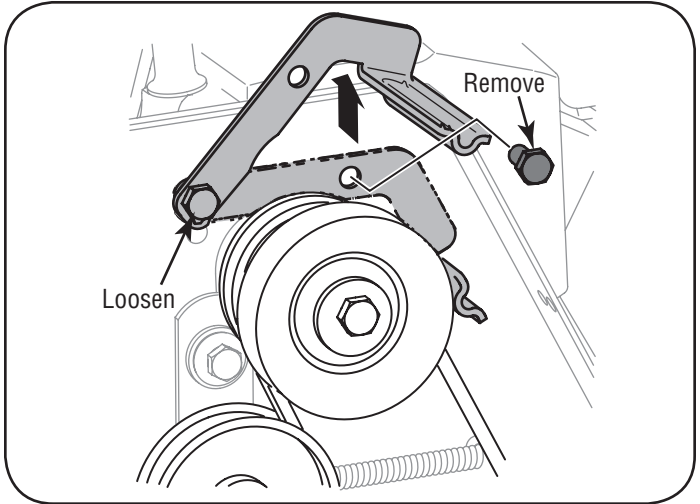

Figure 24
3. Loosen the bolt shown in Figure 24 securing the belt keeper bracket and remove the other bolt. Push the belt keeper and bracket up off the engine pulley. See Figure 24.